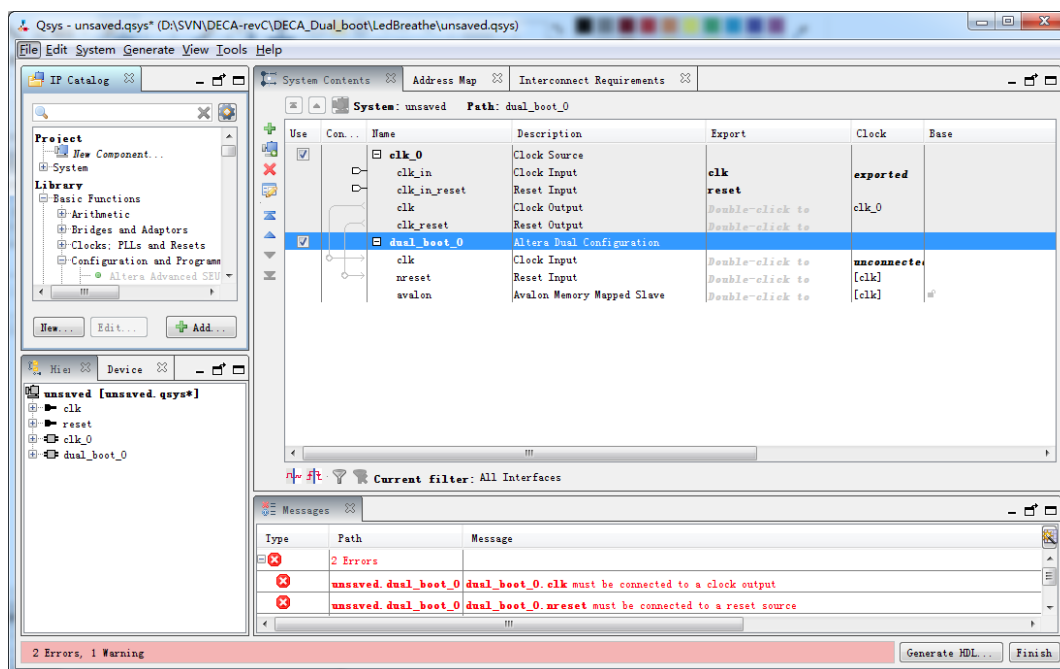

Figure 8-6 Add Dual Boot IP [2]
3. Click **Finish** to close the wizard and return to the window as shown in Figure 8-6.